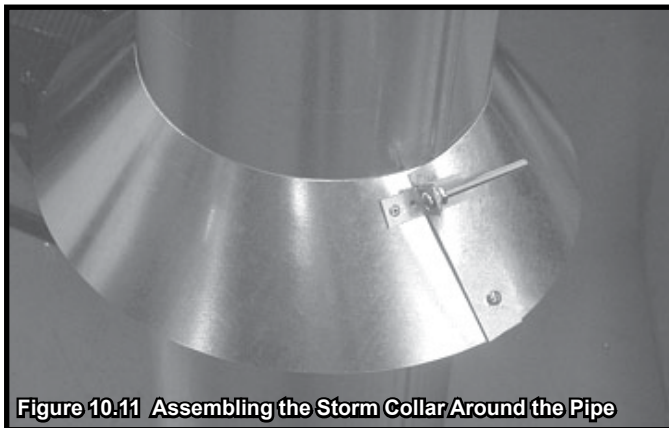

Figure 10.11 Assembling the Storm Collar Around the Pipe
- Slide the assembled storm collar down the pipe section until it rests on the roof flashing. See Figure 10.11.